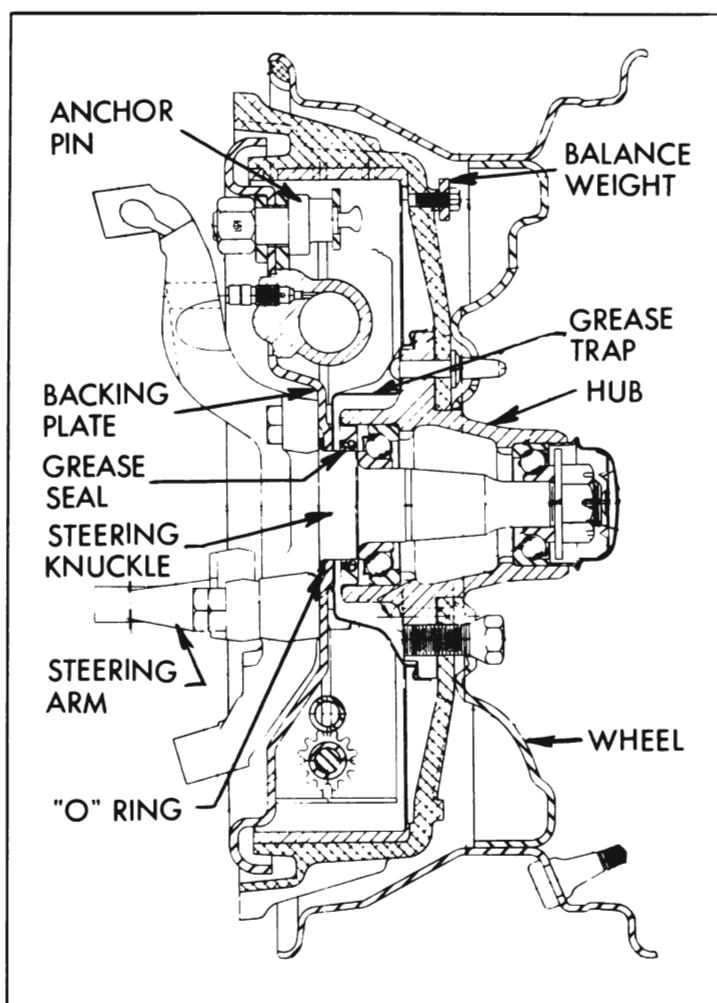

Figure 7-8—Front Wheel Hub and Bearings
9. Install wheel on spindle, then install outer bearing assembly, cone, safety washer and nut. See figure 7-8.